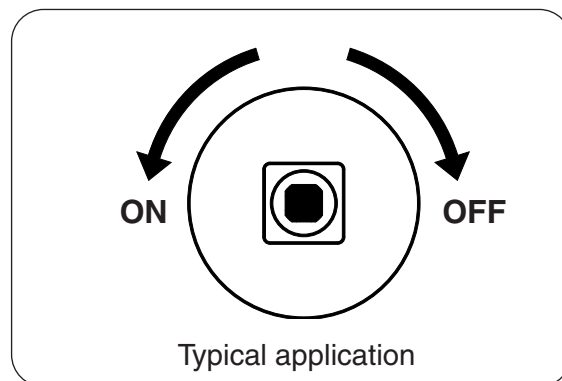

Fig. 19-2
4. **Once the flame is in position**, slowly turn the key valve counter-clockwise toward the **ON** position until it no longer rotates (see Fig. 19-2). Your burner should light.
To extinguish your gas burner, turn the key valve clockwise toward the **OFF** position until it no longer rotates (see Fig. 19-2). Be sure the key valve is turned fully off to avoid any gas leakage.